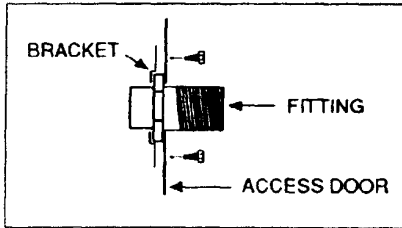

Figure 11
- B. Line up the 3-holes around the fitting with the bracket behind the fitting and install the screws. Refer to Fig. 11.